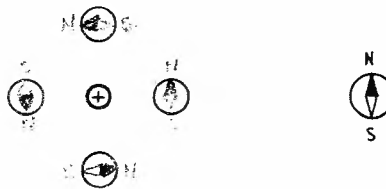

FIG. 3.
- STEP 3.** Reverse the current through the conductor. Record the compass deflections on Fig. 3.